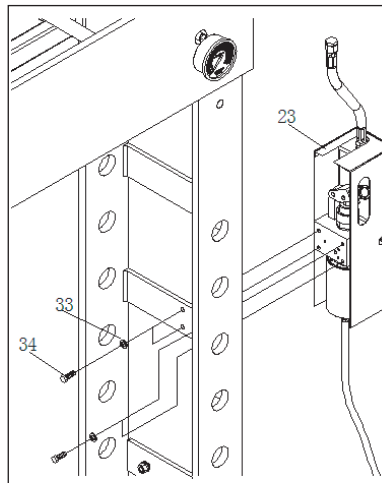

Fig. 4
- Fix the pump assy. (23) to the body frame by using bolt (34) and lock washer 10 (33). (refer to Fig. 4).